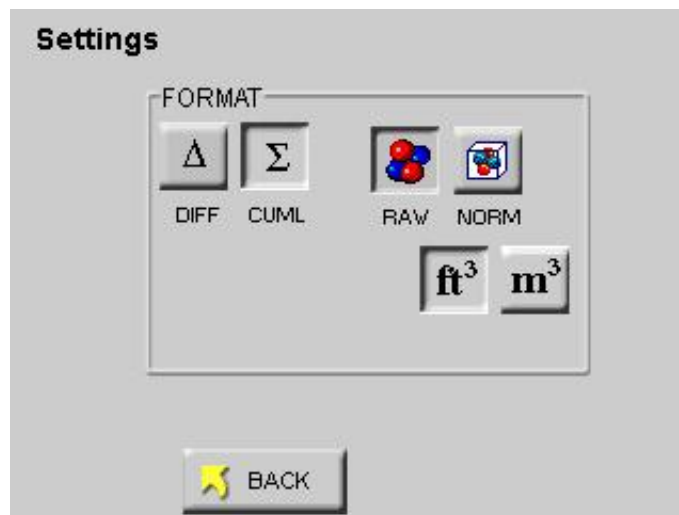

Figure 6-91 Reports Settings Screen
- Select the SETTING button to format the instrument for CUMUL/DIFF, RAW/NORM, ft³/m³ as shown in Figure 6-91.